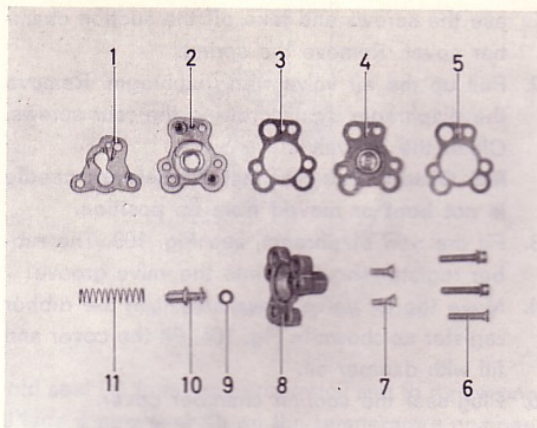

Fig. 101 Throttle by-pass valve
N.B. When adjusting, do not press the adjusting screw inwards since the rubber ring (9, Fig. 101) sealing between the screw and cover can drop out of position. Check for air leakage by e.g. placing a finger over the rubber ring hole.
The throttle by-pass valve is replaced complete. The valve is removed from the carburettor by screwing out the three screws (6, Fig. 101). Clean the gasket surface and fit the new valve with gasket (1). Carry out a function test.